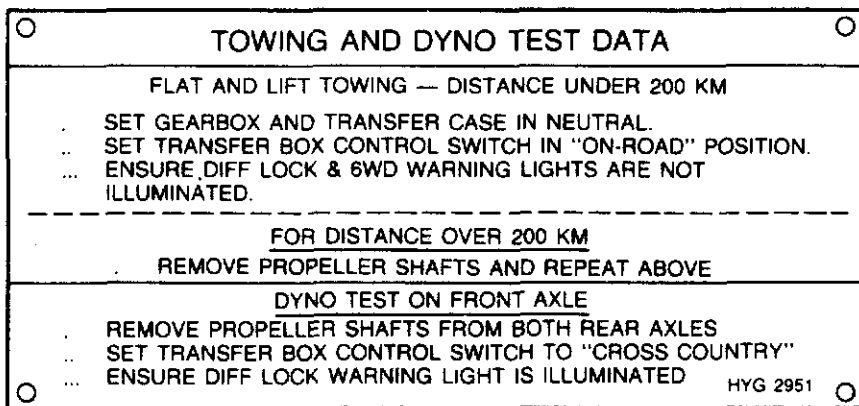

Figure 1-27 Towing and dyno test data plate
**120. Towing and dyno test data plate (Fig. 1-27)**